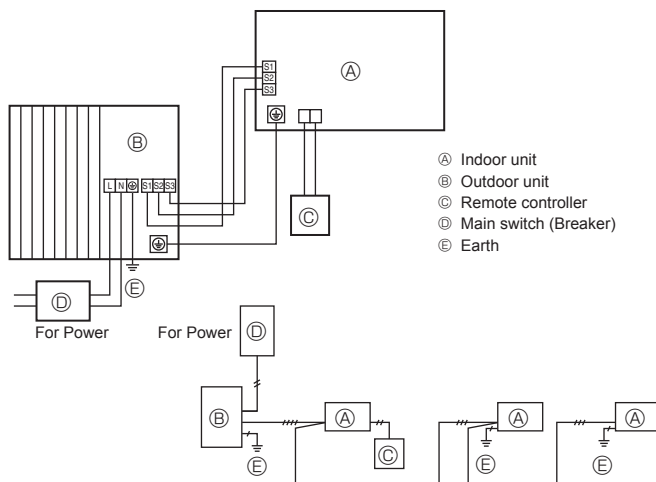

Fig. 7-1
7.1. Outdoor unit (Fig. 7-1, Fig. 7-2)
- Wire the cables referring to the Fig. 7-1 and the Fig. 7-2.